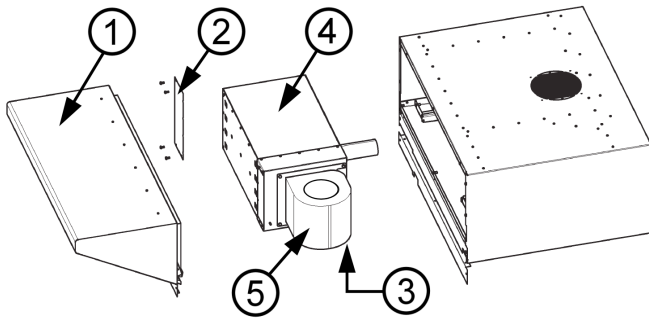
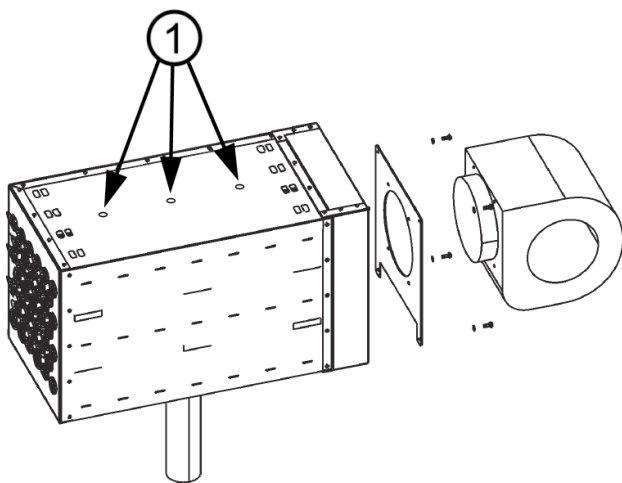

Figure 22: Disassembled 0610 hood
Figure 23: Description of the hood's heat exchanger
- On the front of the steam trap there are 12 M5 bolts. Unscrew these bolts and remove the steam trap (1) from the hood (see fig. 22).
- Unscrew the locking plate and the dividing bar (2).
- Remove the power cable connector (3) from the socket on the bottom of the motor.
- Remove the heat exchanger (4) and the motor (5).
- Remove the steel plate with the motor from the heat exchanger (see fig. 23).
Place the heat exchanger in a suitable location for the water to drain away, with the three service openings (1) facing upwards (see fig. 23). Apply the soap to the heat exchanger through these three openings and leave to soak for 15 minutes. Then rinse the heat exchanger with hot water.